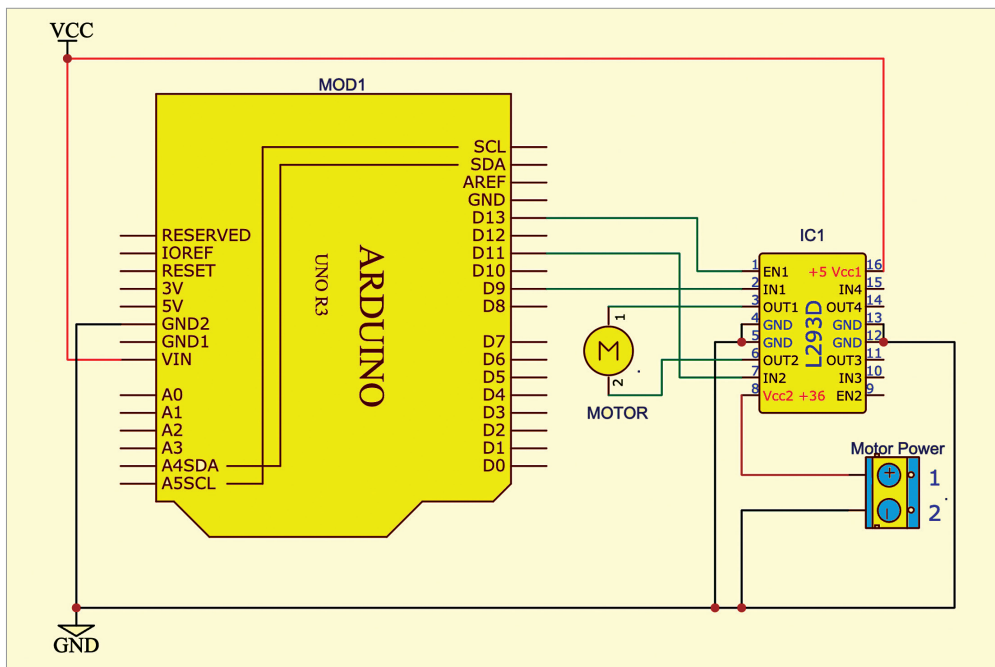

Fig. 2: Circuit diagram
Fig. 2 shows the circuit diagram of the laptop-based HMI for DC motor speed and direction control. The system is built using an Arduino Uno board (MOD1), the L293D motor driver IC (IC1), a DC motor (M), and a few supporting components. A separate 9V power supply should be used for the motor instead of combining it with the Arduino's power source. The Arduino board requires a dedicated 9V supply. A USB cable is used for programming.